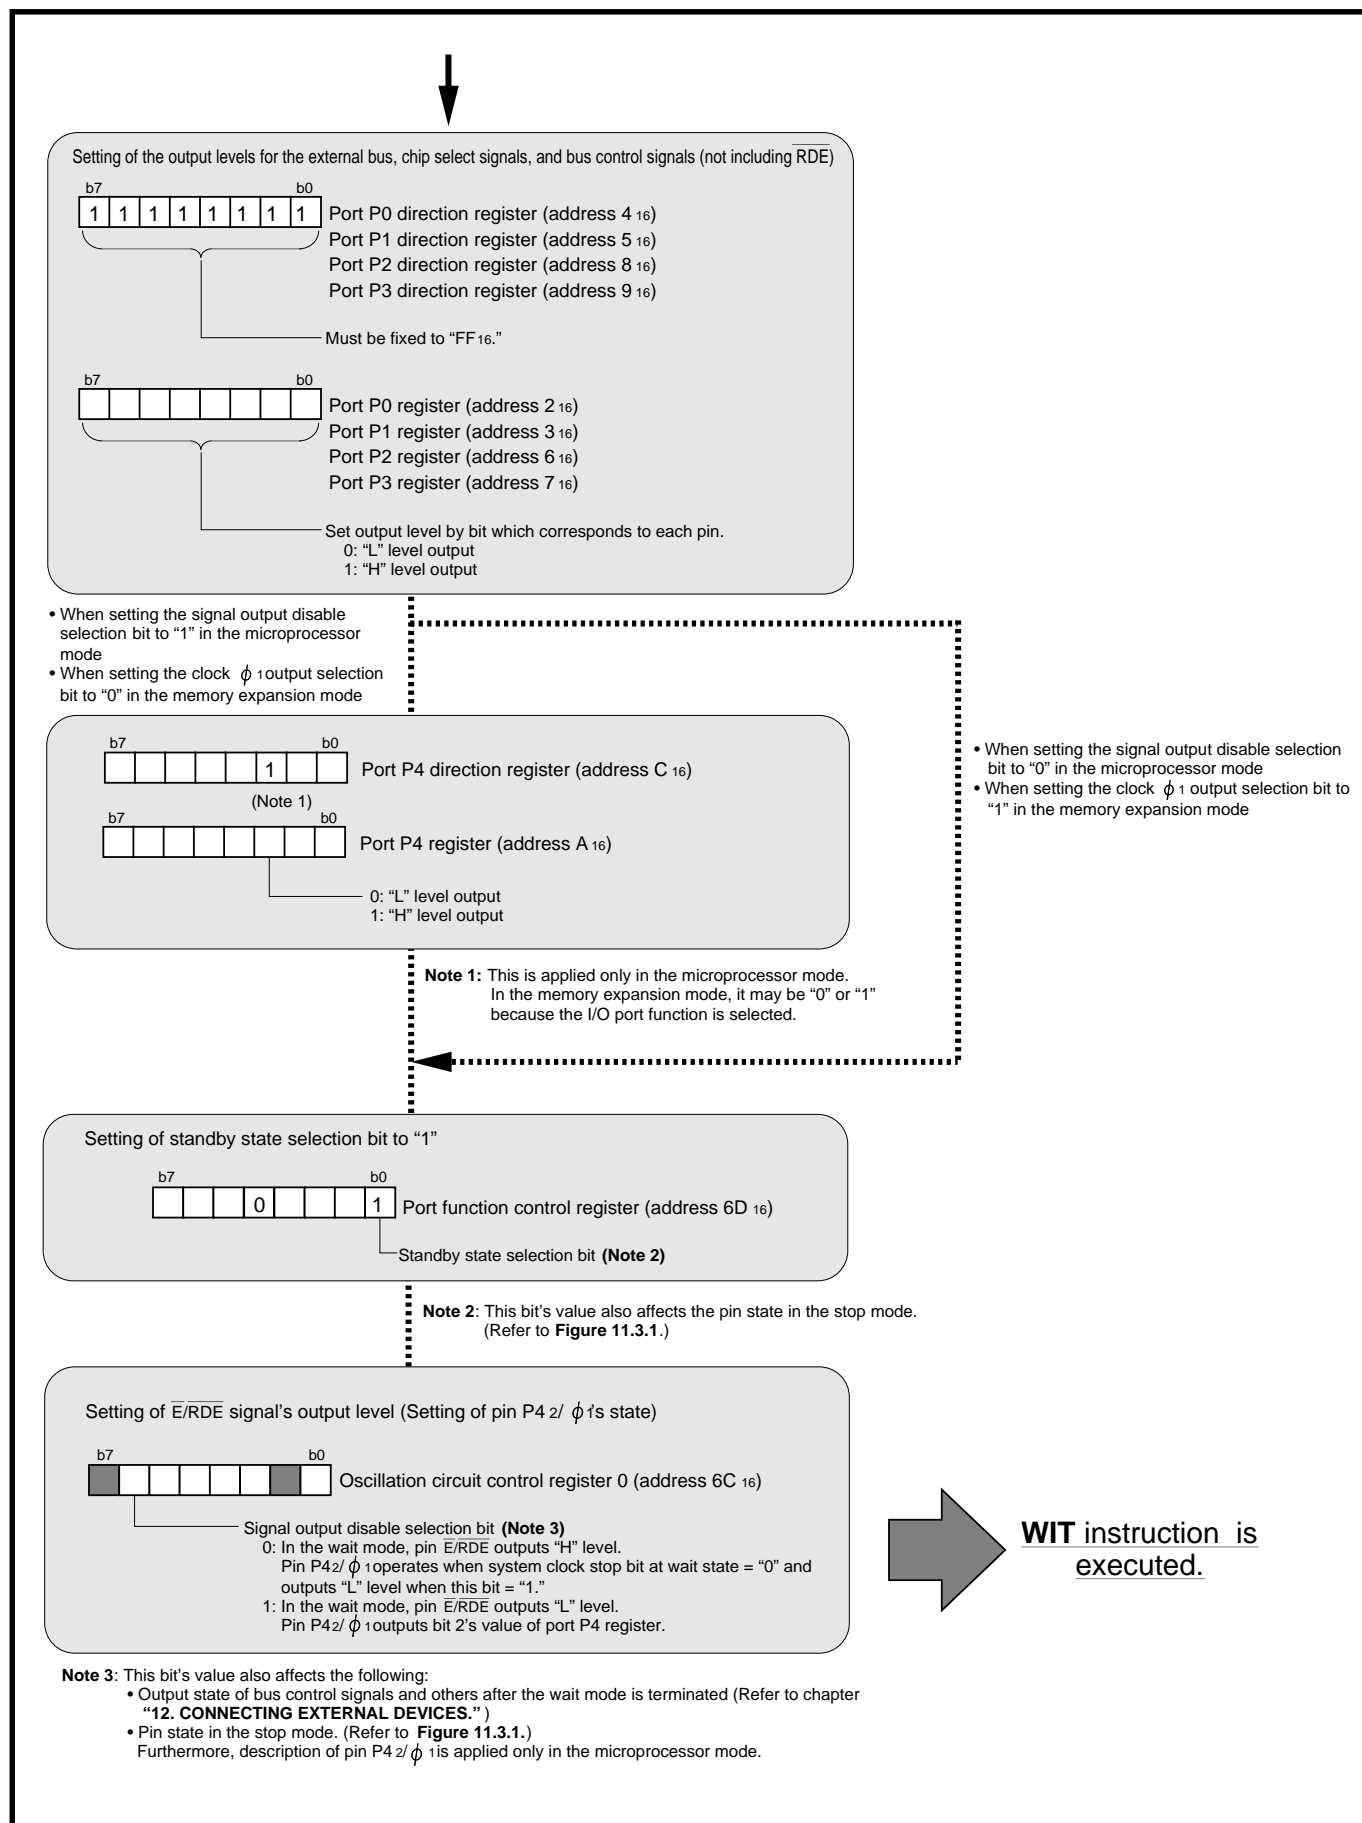

Fig. 11.4.1 Output level setting example in wait mode (Memory expansion or Microprocessor mode)
- **Table 11.4.2 and Figure 11.4.1**
Standby state selection bit*¹: Bit 0 at address 6D₁₆ (Refer to **Figure 11.4.1**.)